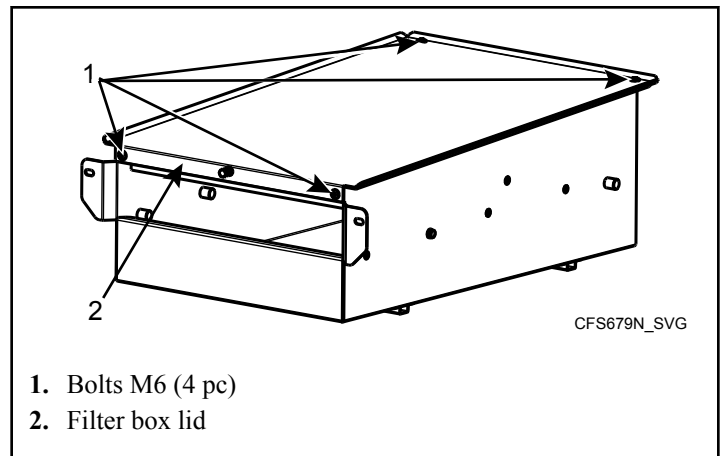

Figure 61
- Clean the box. Refer to *Figure 61*. The box lid (2) is also removable using the four M6 bolts (1).